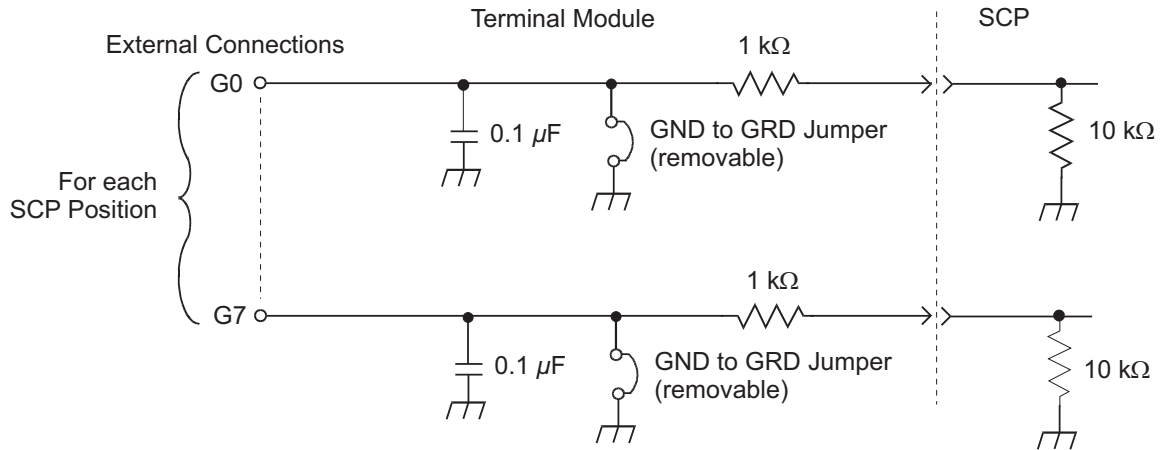

Figure 2-10: GRD/GND Circuitry Opt. 12 Terminal Module
3. Connect the shield of each wiring pair to the corresponding Guard (G) terminal on the Terminal Module (see Figure 2-10 for schematic of Guard to Ground circuitry on the Terminal Module).
4. The Terminal Module is shipped with the Ground-to-Guard (GND-GRD) shorting jumper installed for each channel. These may be left installed or removed (see Figure 2-10 to remove the jumper), dependent on the following conditions: